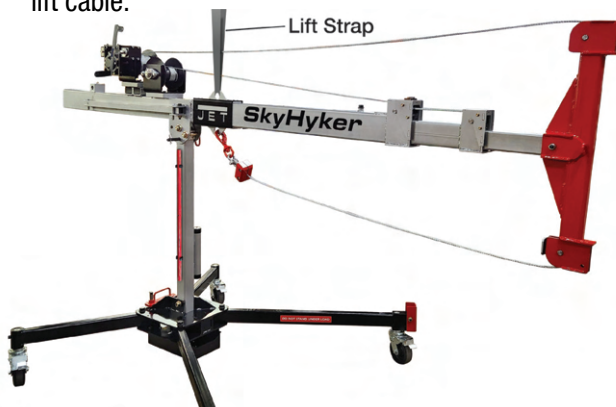

Figure 7-30: Using a Lift Strap with the Travel Mode Lift Point
5. Place a lifting strap through the travel mode lift point (see Figure 7-30). Securely attach the lifting strap to the crane lift cable.